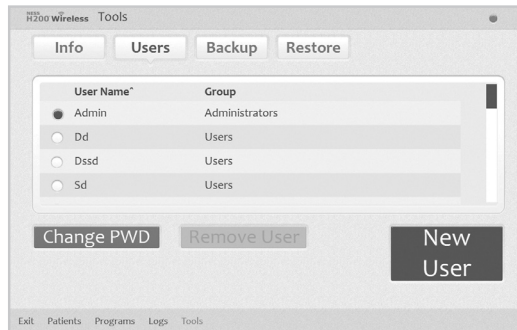

Figure 8-40: User Administration Window
1. Press the Users tab to view the User Administration window. See Figure 8-40.